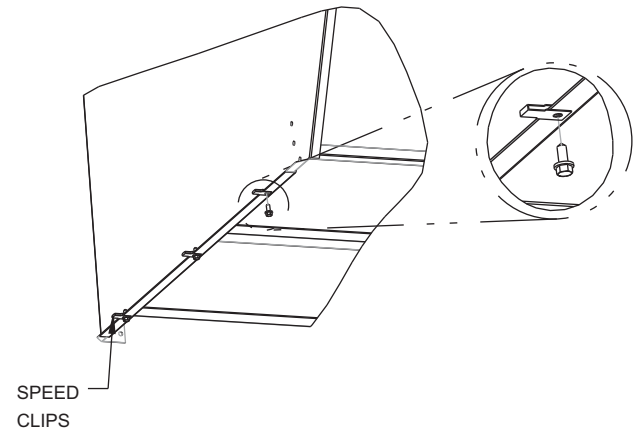

Fig. 31 — Bottom Filters Installed with Flange Pointing Down (Speed Clip Location)
12. Attach speed clips (provided) to hood side panels. Engagement section of clip faces up and towards the outside of the hood side panels. Attach mounting angles to hood with gasketed screws provided. See Fig. 31 for speed clip details. **NOTE:** Be sure the filters are installed with the airflow in the correct direction.